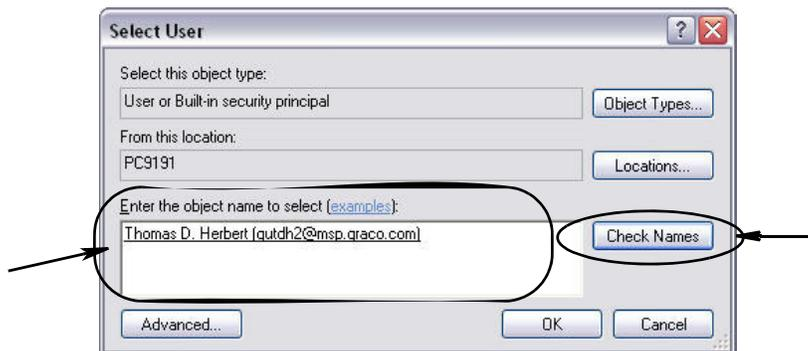

FIG. 40
- h. The dialog box shown in FIG. 40 displays. In the “Enter the object name to select” field type your user name. Then click the Check Names button.